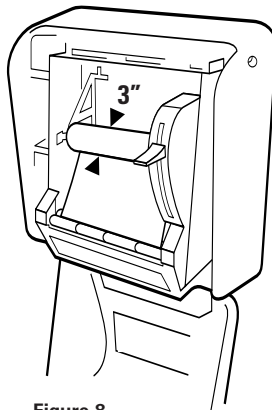
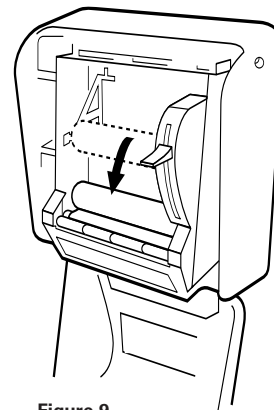

Figure 8
Figure 9
1. When the main roll reaches a diameter of approximately 3 inches (Figure 8), remove it from the upper roll holder and place it in the lower roll holders (Figure 9)